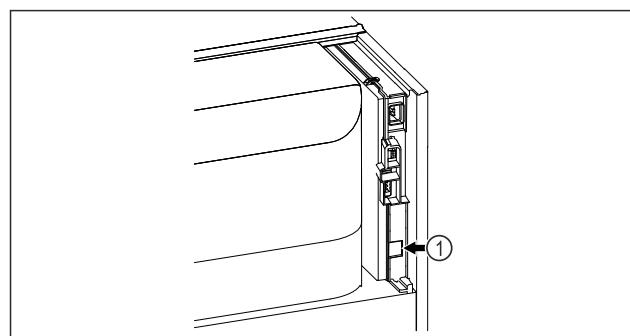

Fig. 180
- SmartModule Fig. 180 (1) is in use.